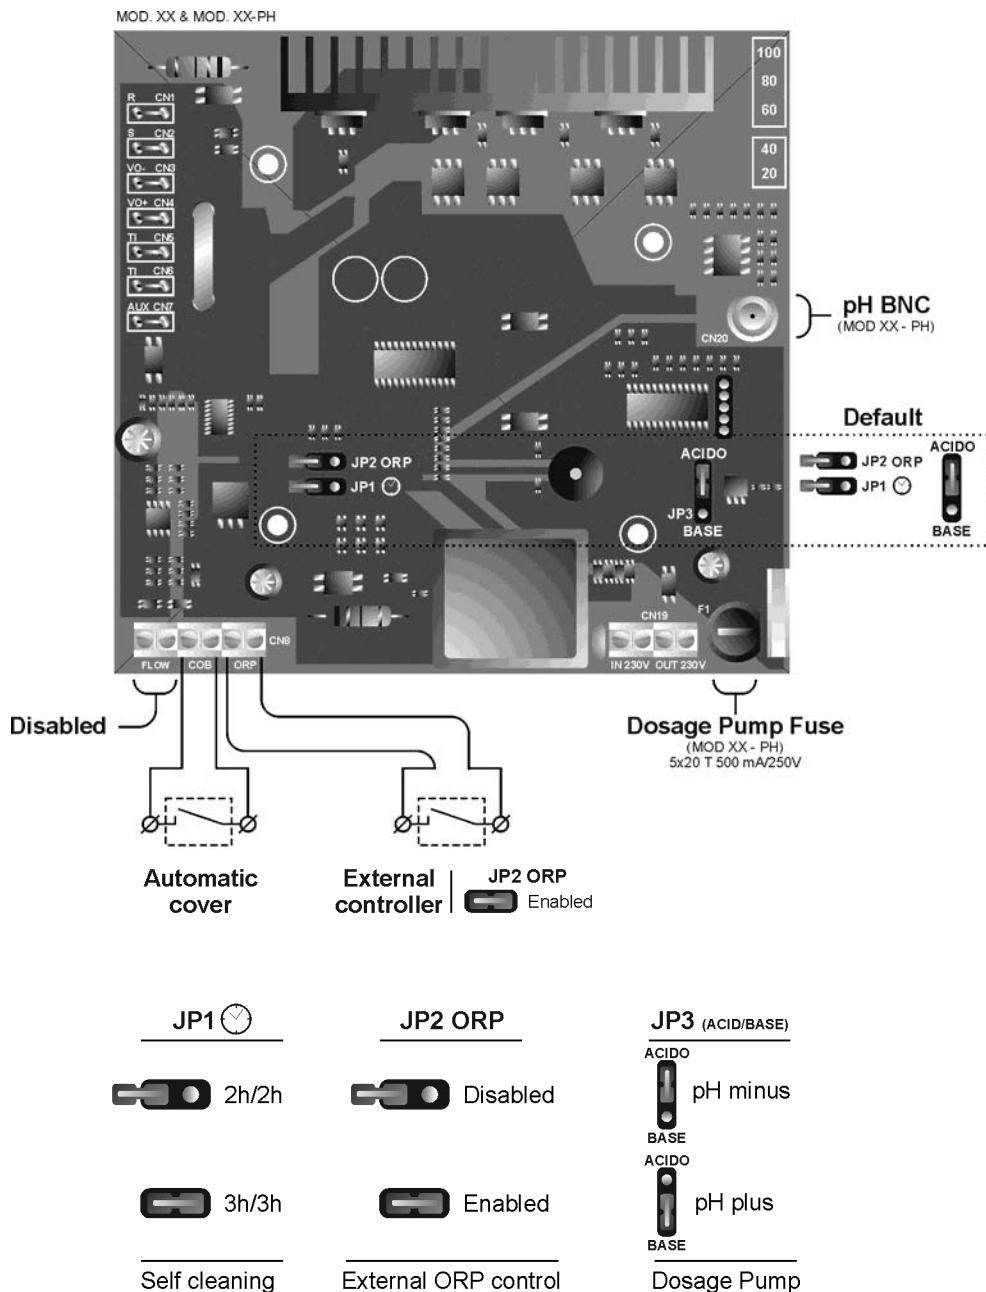

Fig. 16
- **ELECTRODE SELF-CLEANING System:** the leds [5] indicate electrode polarisation status (direct/reverse). The reversal frequency can be selected by means of jumper “JP1” on the system control panel (Fig. 16). This configuration will become effective by disconnecting and connecting again the equipment.